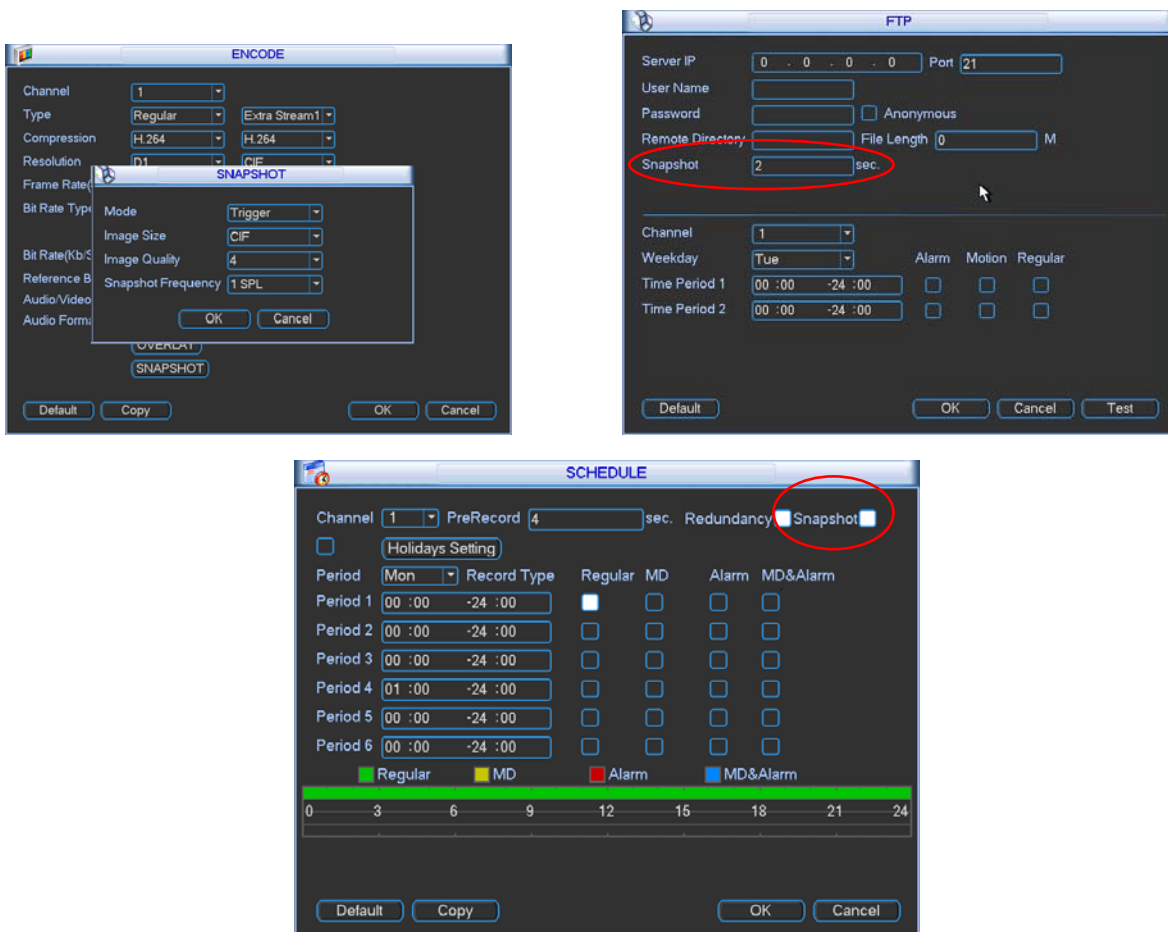

Figure 4-18
In Encode interface, click snapshot button to input snapshot mode, size, quality and frequency. See the interface on the left of Figure 4-18.
In FTP (Main Menu->Network->Network Setting) interface, please input upload interval. See the interface in the middle of Figure 4-18.
In Schedule interface, please enable snapshot function. See interface on the right of Figure 4-18.
Please refer to the following figure for detailed information. See Figure 4-18.
- In FTP interface please input upload interval. See the interface in the middle of Figure 4-18.